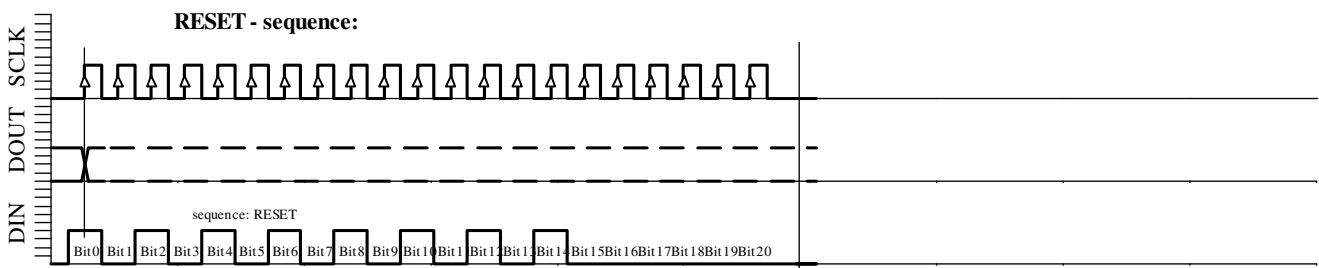

Fig. 6e: RESET sequence (21-Bit).
- RESET sequence (Figure 6e)
The RESET sequence is special as its unique pattern is recognised by the module in any state. By consequence it can be used to restart if synchronisation between the microcontroller and the MS5535B has been lost. This sequence is 21-Bit long. The DOUT signal might change during that sequence (see Fig. 6e). **It is recommended to send the RESET sequence before each CONVERSION sequence to avoid hanging up the protocol permanently in case of electrical interference.**